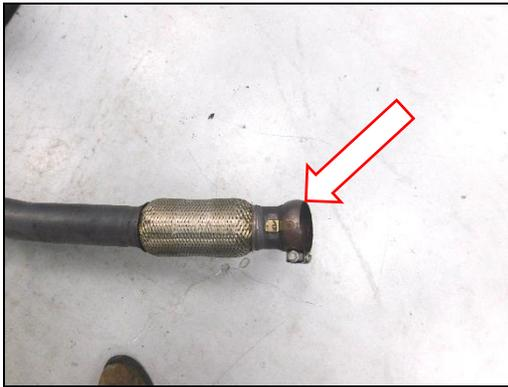

Figure 3
1. Remove the OE front exhaust clamp, and reuse on the Blackheart exhaust. Install the OE clamp in the same direction it came off install the Blackheart front pipe and install the hanger in the OE rubber isolator (**Figure 3 & 4**).